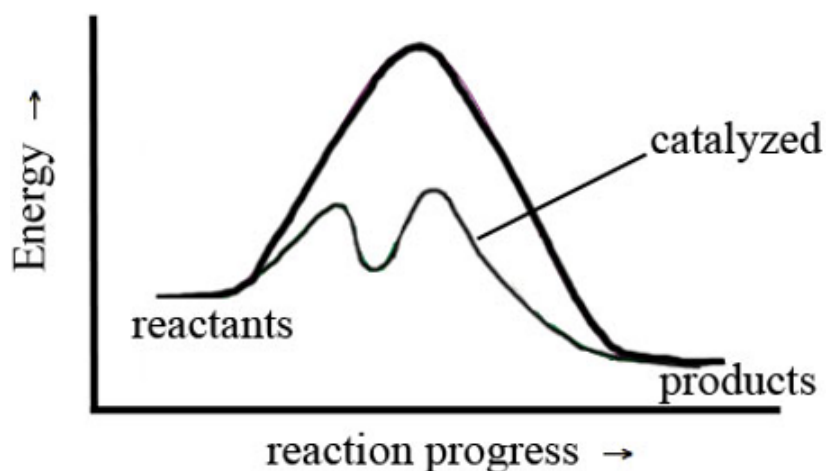

Figure 3: The Influence of Catalysts on Reaction Mechanisms and Activation Energy
In Figure 3, the path of the reaction in the absence of a catalyst is shown as a dark line, and the path in the presence of a catalyst is shown as a lighter line.
6. Describe the differences in appearance between the catalyzed and uncatalyzed pathways in Figure 3, including relative energies and number of energy barriers.